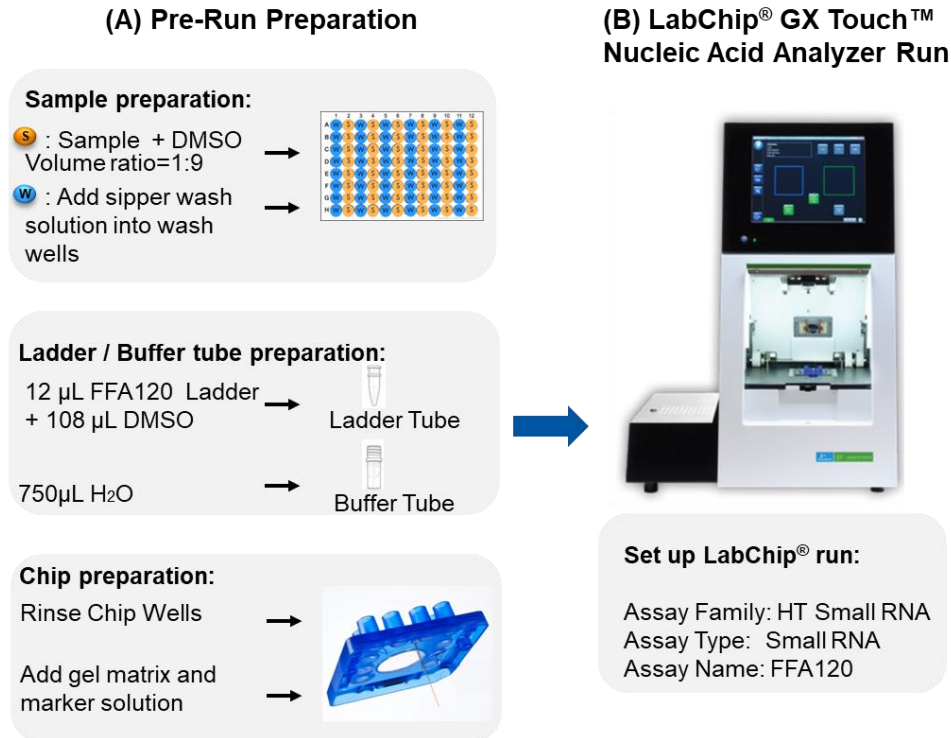

Figure 3. Sample, Ladder Tube and Buffer Tube Preparation
1. Prepare sample, Ladder Tube, and Buffer Tube according to **Figure 3**.